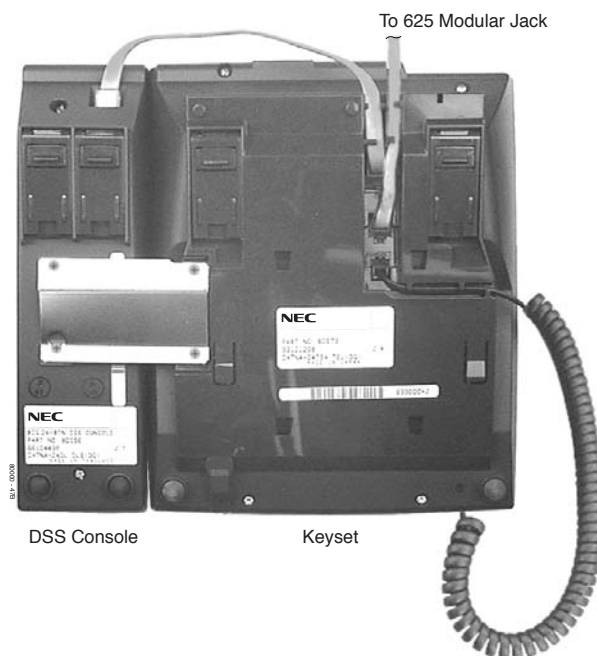
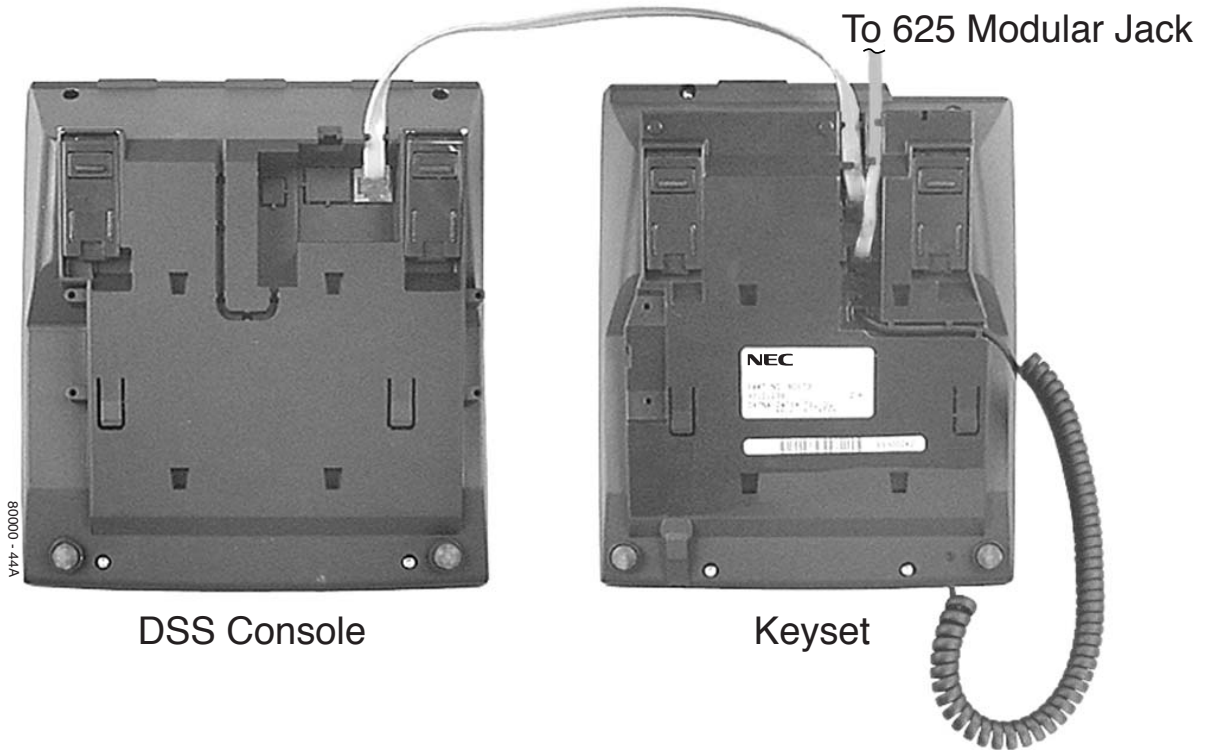

Figure 4-5: Installing a 24-Button DSS Console
Figure 4-6: Installing a 110-Button DSS Console
To install a DSS Console (Figure 4-5) (Figure 4-6):
4. If you have a 24-Button DSS Console, attach the metal plate to both the DSS Console and telephone. See Figure 4-5 *Installing a 24-Button DSS Console* on page 4-8 for more.